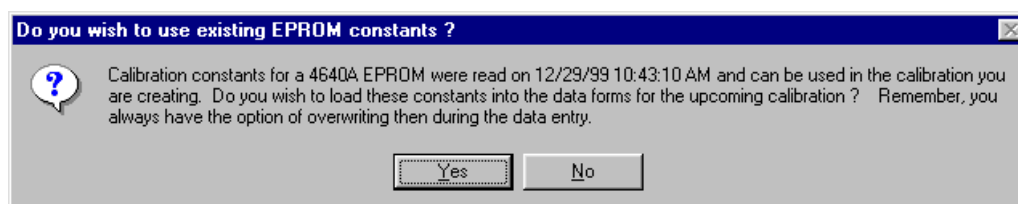

Figure 4–13. Use Existing Calibration Constants Query
6. As shown in Figure 4–14, the program now queries the user as to which type of recalibration was just performed.